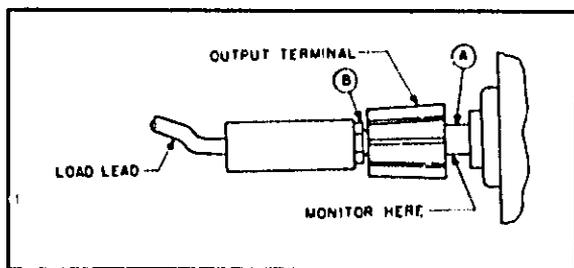

Figure 5-1. Front Panel Terminal Connections
**5-10** When measurements are made at the front panel terminals, the monitoring leads must be connected at point A, as shown in Figure 5-1, and not at point B. Connecting the measuring device at point B would result in a measurement that includes the resistance of the leads between the output terminal and the point of connection.